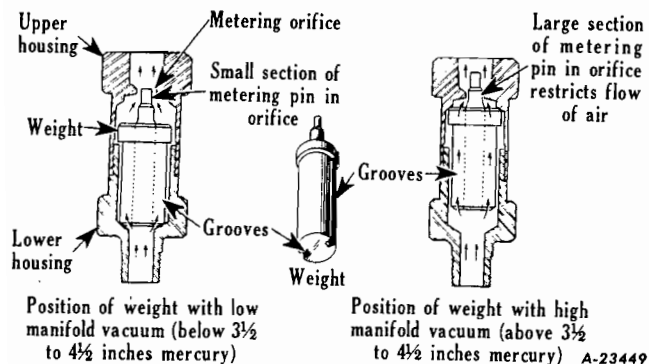

Fig. 59
2. **CRANKCASE VENTILATOR METERING VALVE.** To remove the ventilator metering valve disconnect the vacuum line leading to the intake manifold. Unscrew the ventilator metering valve unit from the oil filler pipe. To service, separate the two halves of the valve unit, and remove the weight. Clean all parts. When installing the ventilator metering valve on filler pipe, point arrow up. Screw unit into filler pipe. Connect vacuum line leading to the intake manifold (Fig. 59).